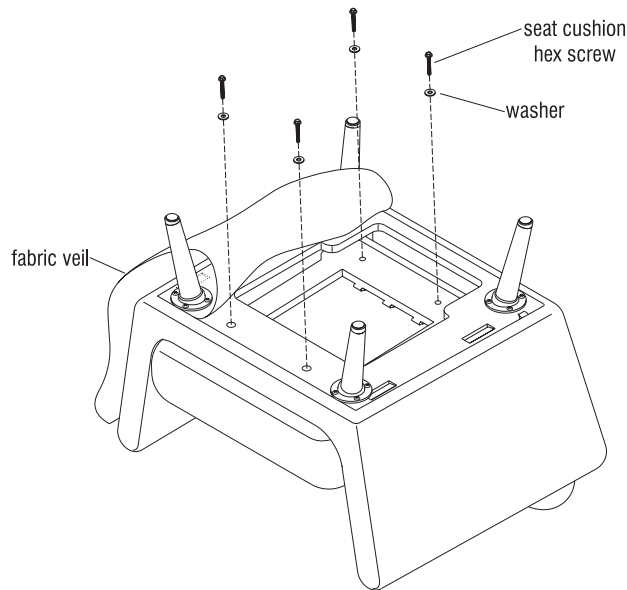

Figure 1
1. Place chair upside down onto a soft, protective surface (Figure 1).